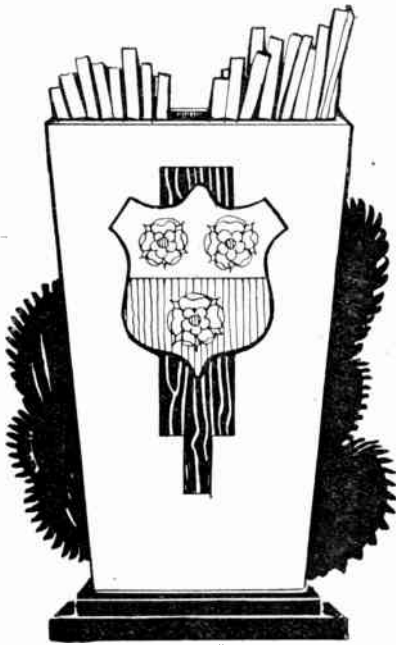
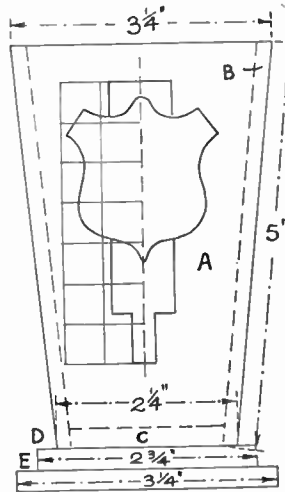

Fig. 1—The first design
Fig. 2—Measurements for the first article
We will deal first with the holder shown at Fig. 1. This has two shaped pieces—front and back, as (A) in Fig. 2, the measurements being clearly given for marking out on the wood or on to a sheet of paper. Note all wood is  $\frac{1}{8}$  in. thick excepting the base which is  $\frac{1}{2}$  in. thick. Note from the diagram that the two sides (B) go in between the front and back. These side pieces are plain oblongs measuring 5 ins. by  $1\frac{1}{2}$  ins. When the four pieces are cut, glue them together, making neatly fitting butt joints, and then rub down all four side surfaces so as to make the joints almost invisible.
front of the box consists of two overlays, the back one taking the form of the complete outline, the front one being just the shield. The enlargement for the overlays can be made by drawing out on paper the fourteen  $\frac{1}{2}$  in. squares shown in Fig. 2 and following the outline given through each square. The half outline should be traced and transferred to the wood which should be  $\frac{1}{8}$  in. in thickness. A town arms or crest could be painted on the shield and afterwards given a coat of clear varnish. The back overlay may be darkened with stain to show up the shield. The finish to the wood should suit the kind of wood used. Oak may be stained and waxed, or a white wood just plain varnished.
squared diagram (Fig. 2), ignoring the top right-hand shape *a*. Now trace off on to thin card, various templates. These are (1) the complete shape *b, c, d, e*; (2) *b, e, f*; (3) complete shape *g*; (4) complete shape *h, j, k, l, m, n*; (5) *o, j, p, m*; (6) *p, q*. Other shapes may be traced off if required. It is an advantage to have two templates for each part: the main profile shape, as at *g* and such half-templates as at *a* (which represents on a smaller scale half of shape *o, j, p, m*). The use of these templates will readily be apparent when modelling starts.